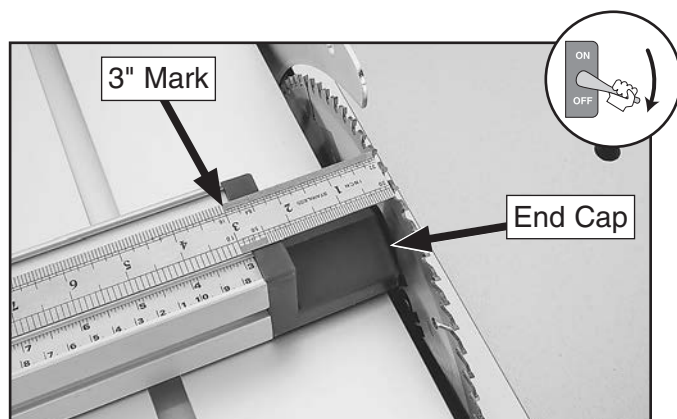

Figure 96. End cap aligned with blade.
3. Move crosscut table (refer to **Positioning Crosscut Table Along Sliding Table** for instructions) so fence end cap is aligned with center of blade body (see **Figure 96**).
4. Place precision ruler against a blade tooth, as shown in **Figure 96**, then adjust fence so that 3" mark on fence scale is exactly 3" from blade tooth.